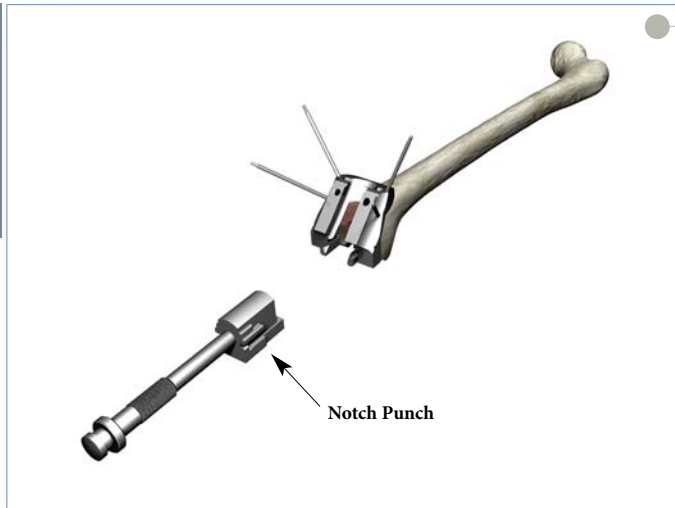

Figure 21
- ▶ Guide the Notch Punch into the tracks on the distal face of the Notch Block (Figure 21). The rails on the sides of the cutting edge fit into the tracks on the inside walls of the block.